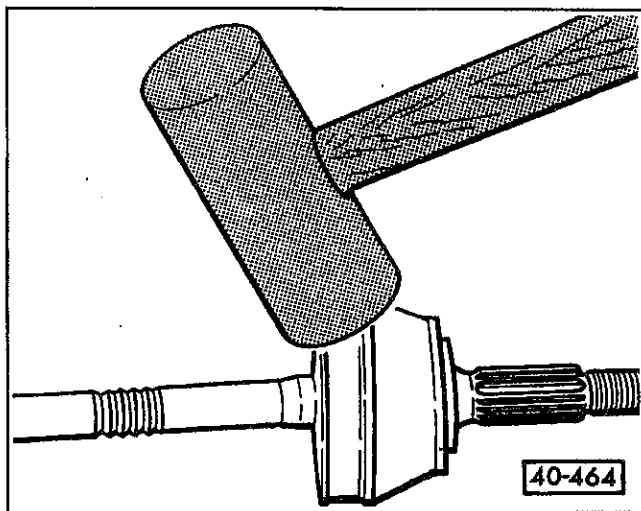

Fig. 20. CV joint being driven off axle with soft mallet.
4. Carefully drive CV joint off drive axle with firm blow from soft mallet. See Fig. 20.